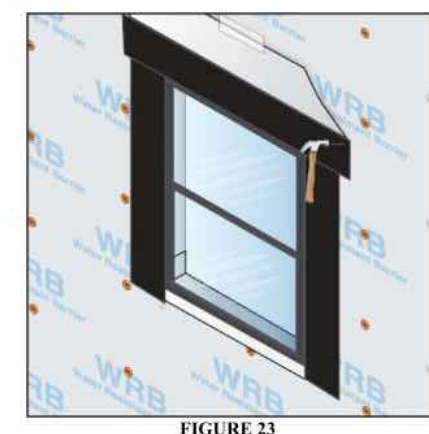

FIGURE 23
7.5.6 Apply mechanically attached flashing to head over sealant and secure with mechanical fasteners (see Figure 23).
7.5.6.1 Use fasteners (in accordance with the flashing manufacturer's recommendations) to secure mechanically attached flashing at the head (see Figure 23). Cover fasteners with WRB or sealant whenever possible.